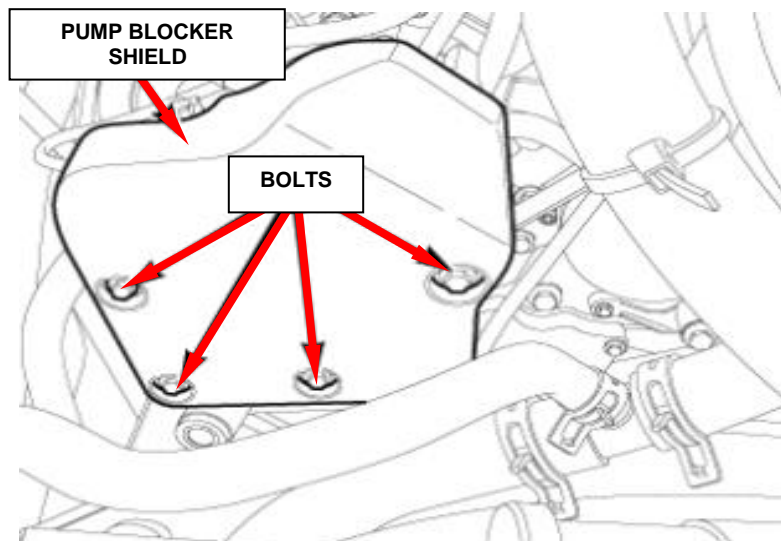

Figure 19 – Fuel Pump Blocker Shield
22. Remove the 4 bolts and the fuel injection pump blocker shield (Figure 19).